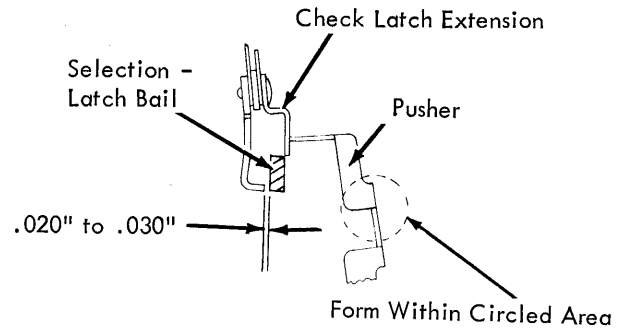

FIGURE 26. Check Latch Pusher
- Check Latch Pusher (Fig. 26) - Form so that the check latch clears the selection bail by .020" to .030". This clearance must be observed with the selection bail lowered slightly.